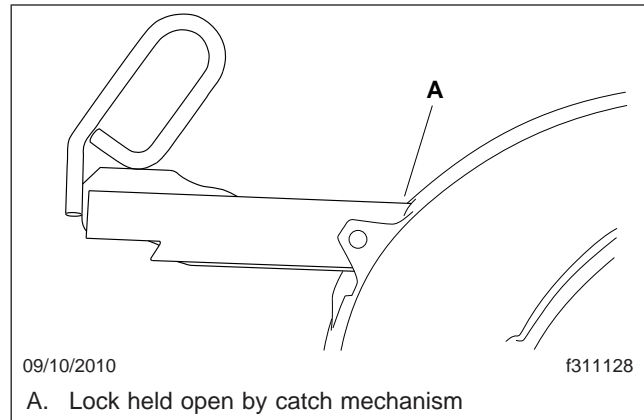

Fig. 17.5, Jost Release Handle Unlocked
- Open the kingpin locks. See Fig. 17.5.
- 6.3 **Jost:** Pull the retractable release handle out, then secure it in the open position with the catch. See Fig. 17.5.